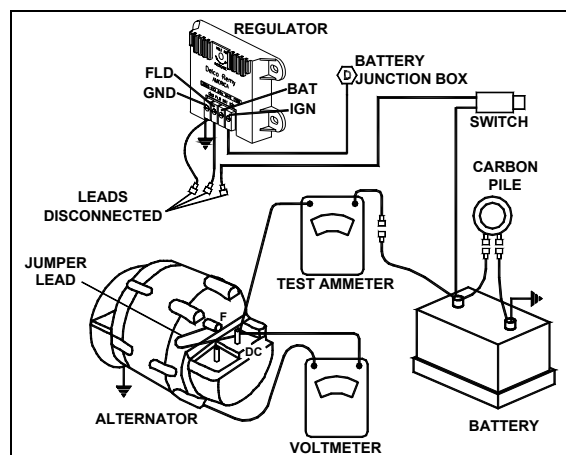

FIGURE 31: REGULATOR VOLTAGE TEST
6. See figure 31 for wiring connections.
- B) By removing any retaining screws involved and unsoldering the connections. When resoldering, limit solder time to a minimum as excessive heat may damage the printed circuit board and component parts. However good soldered connections are essential for satisfactory operation. A resin core 63% tin 37% lead solder with a 360°F (182°C) melting point is recommended along with a soldering iron rated at 50 watts or less. Use extreme care to avoid overheating. Before checking the printed circuit board, remove transistor TR1, which must be checked separately. Connect the ohmmeter as shown in figure 31, and then reverse the ohmmeter leads to obtain two readings on the same component. Use the middle scale on scale-type meters on which the 300 ohm value should be within, or nearly within, the middle third of scale.